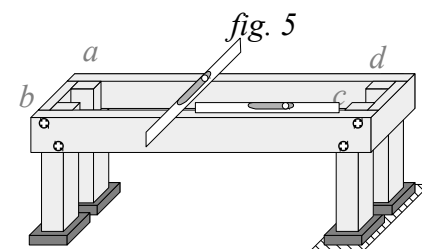

fig. 5
- 8) Set the level on the front board; skim dirt out from under both feet on whatever side is highest (*a/b* or *c/d*) until level. Set the level in the middle spanning between the front and back boards; skim dirt out from under both feet on whatever front or back is highest (*a/d* or *b/c*) until level – fig 5.